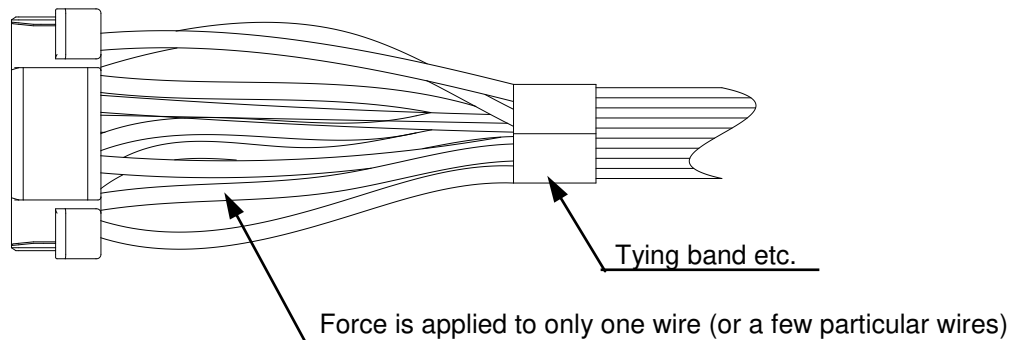

Fig.7-2 Harness is bundled improperly
- ② As for the harness, please do not apply force to only one wire (or a few particular wires). **(Fig.7-2)**